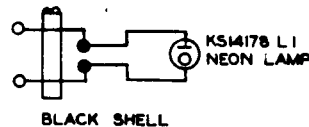

Fig. 20—366A Plug
2.10 366A: The 366A (Fig. 20) is a twin plug that has metal fingers and is not for cord or cable connections. The 366A plug is equipped with a KS-14178, L1 neon lamp which is connected across the fingers and is protected by a 2BS lamp cap. The 366A plug is used with 218- or similar-type jacks in the 9B Telegraph Service Board for detecting hits in the circuit.